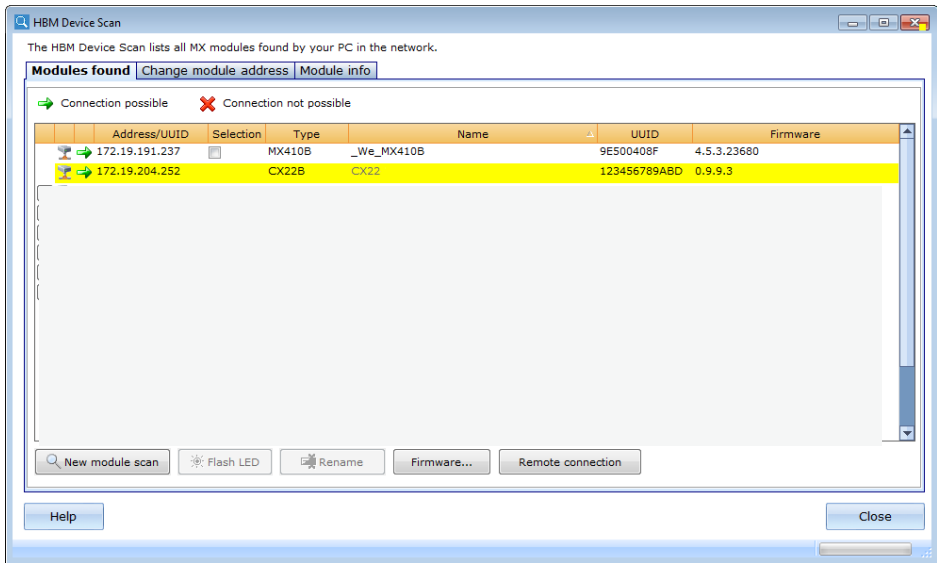

Fig. 6.1 Display of the found modules and whether connection is possible
- ▶ Select the Data Recorder from the list, the current address of the interface is displayed. The module in *Fig. 6.1* has the IP address 172.19.204.252.